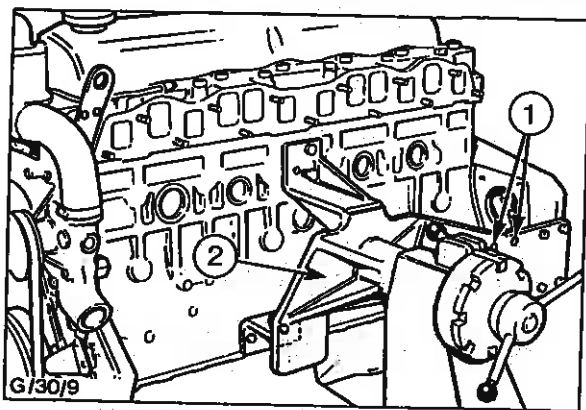

Fig. 17 - Engine Mounted on Stand (200B)
7. Fit engine mounting bracket 21-535 to the engine as shown in Fig. 17. Lift engine with a suitable hoist, using the cylinder head lifting brackets and mount the engine on the stand (200B) as illustrated.